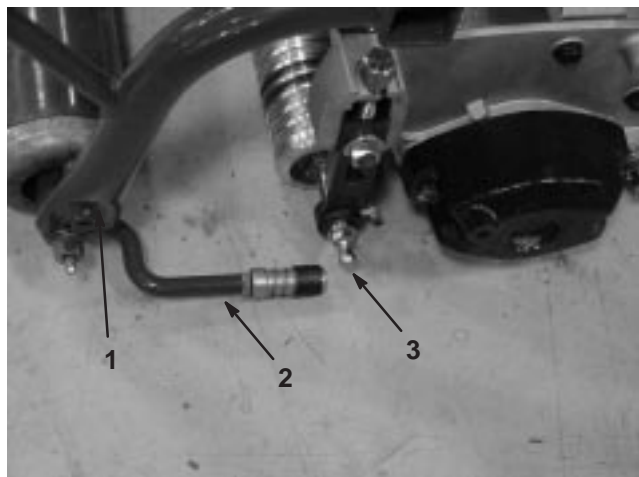

Figure 10
2. Mount a washer and ball stud to each end of the front roller on the cutting units (Fig. 10).
4. Slide the sleeve back on the ball joint and rotate the pull arm down so the socket fits over the ball stud. Release the sleeve so it slides over the stud and locks the assemblies together (Fig. 10).